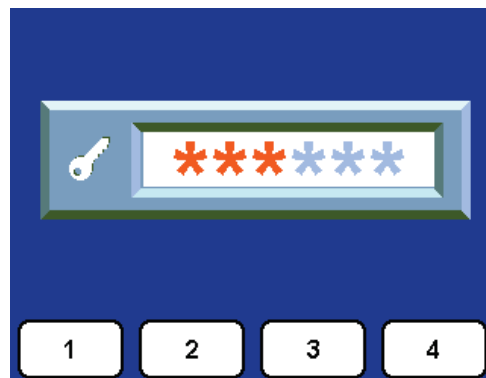

Fig 8
2. Press (2) for pass code screen Fig 8.